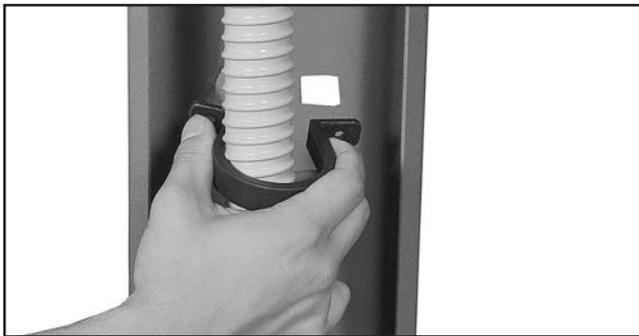

Figure 30. Securing vacuum hose to stand legs.
41. Secure vacuum hose inside upper and lower stand legs with (2) vacuum hose clips (see **Figure 30**).